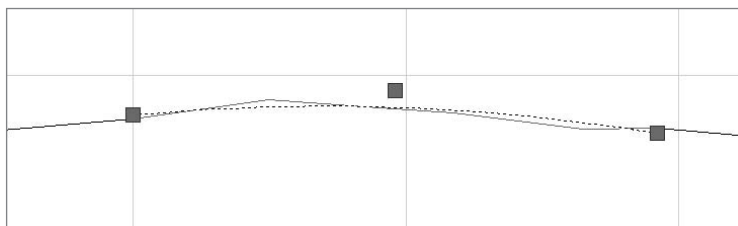

Figure A.4
8. Click the green checkmark in the upper-right corner of the **Regression Data Panorama**. A parabola appears that is a best fit for the line data, as shown in Figure A.4.